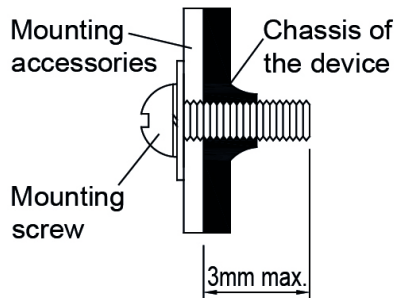

**Fig. 3 Assembly Reference**
- **PM□-5V50W1AA / PM□-5V50W1AG:** Use flexible cable (stranded or solid) of AWG No. 14-12. User should calculate and select the suitable wire specification (type/quantity/diameter) according to actual output current. The torque at the Connector shall not exceed 13Kgf.cm. The insulation stripping length should not exceed 0.275" or 7mm (Refer to Fig. 3).